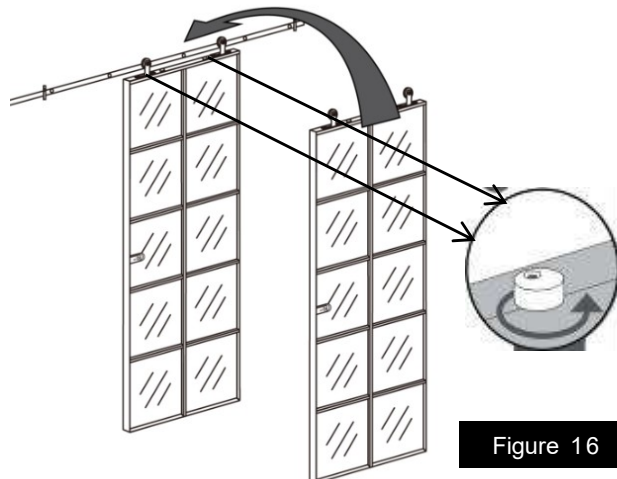

Figure 16
- Rotate the anti-jump block 180-degree so it would be under the track (Figure 16), preventing the door from falling off the track.